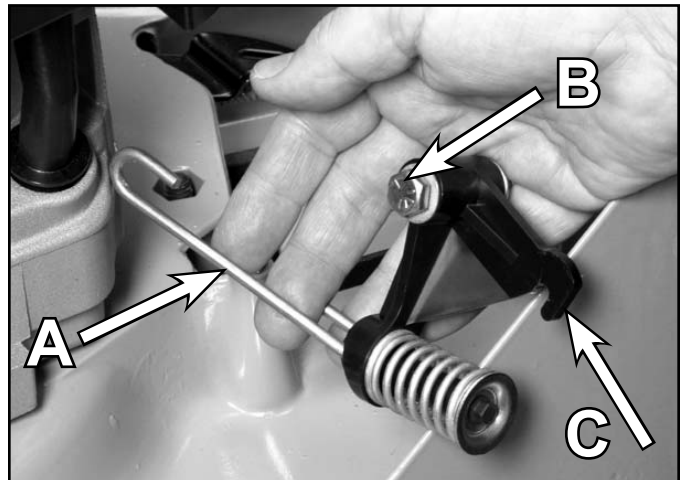

Fig 165
3. Remove the shoulder bolt and flanged nut securing the bellcrank to the control cable bracket. Once loose, remove the bellcrank assembly complete with control link from the unit (Fig. 165).